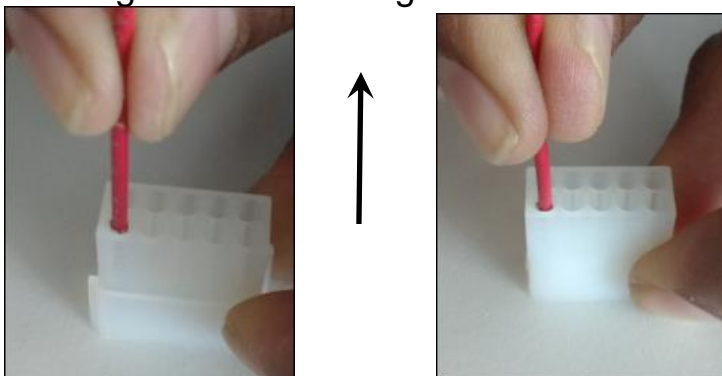

Fig. 3
3. To ensure the terminal seating in housing Pull terminal back gently in the housing as shown in Fig.3.